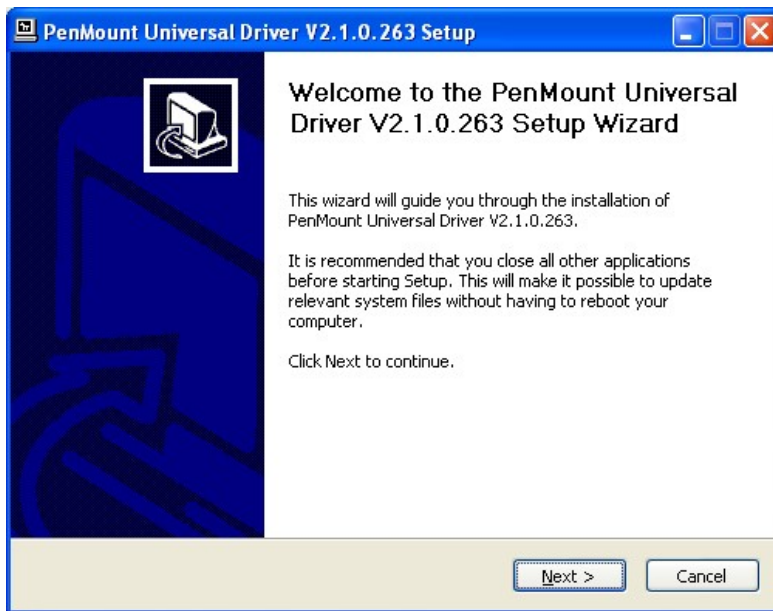

Figure 5-22: Touch Screen Driver Welcome Screen
Step 4: A **Welcome Screen** appears (Figure 5-22).